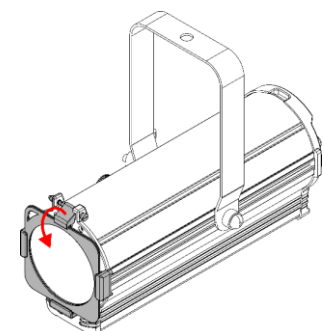

Fig. 15
- 04) Pull the **color frame clip (08)** downwards to release the **spring-loaded screw (09)** (see Fig. 15). The color frame will be locked in position.